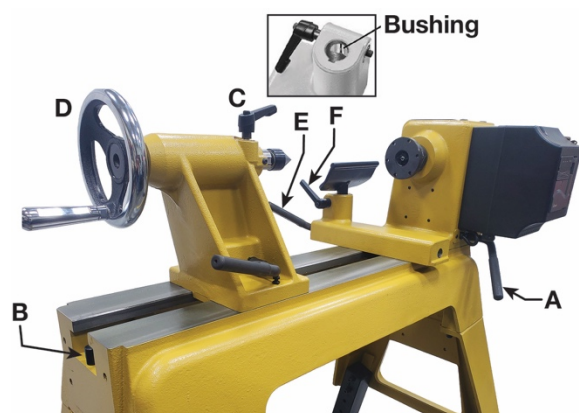

Figure 8-1: Headstock, Tailstock, Tool Support
To slide headstock or tailstock, loosen locking handle (A, Figure 8-1) until head/tailstock can slide freely. When head/tailstock is positioned, swing locking handle until it tightens securely.
To remove headstock, tailstock or tool support base from bed, unscrew and remove stud at either end (B, Figure 8-1). NOTE: After re-mounting these items on the Lathe, always insert stud.
For most spindle turning operations, the headstock will be positioned at left end of bed, and only the tailstock moved to accommodate the workpiece. Loosen locking handle (C, Figure 8-1) to advance or retract tailstock quill by rotating handwheel (D). Retighten handle (C) before operating lathe. *Lock tailstock in position before operating.*
Loosen locking handle (E, Figure 8-1) to slide support base forward or back, and angle it to the bed. Tighten locking handle securely before operating Lathe.
Loosen small handle (F, Figure 8-1). Make sure clamp bushings (inset, Figure 8-1) are spread apart sufficiently to accept tool support post.
Locking handles, such as C and F, Figure 8-1, can be rotated to more convenient position. Lift up on handle, rotate it on pin, then release it, making sure it seats on pin.